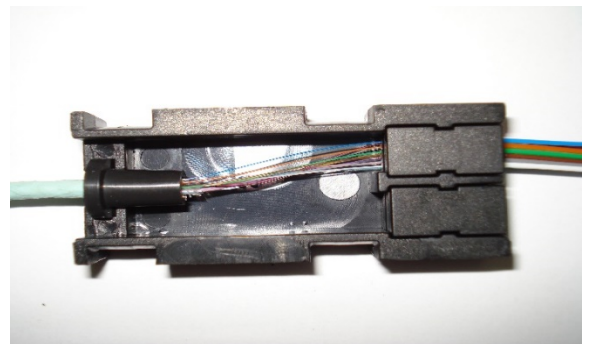

Figure 6
7.4 Once all the strands of the sub-unit are inserted into the tubing, carefully grasp and push all fibers through each Breakout Unit Assembly tubing as a group. Push until ends of the PEF jacket and inner nylon jackets are even with or just past the inside of the 2(or 3 mm) bushing. (**See Fig. 6**)
7.5 Install the 1st subunit block in position # 1 and the 3 blank blocks in positions 2 – 4. Install the bushing in the slot of the base unit. (**see Fig. 6 and 7**)